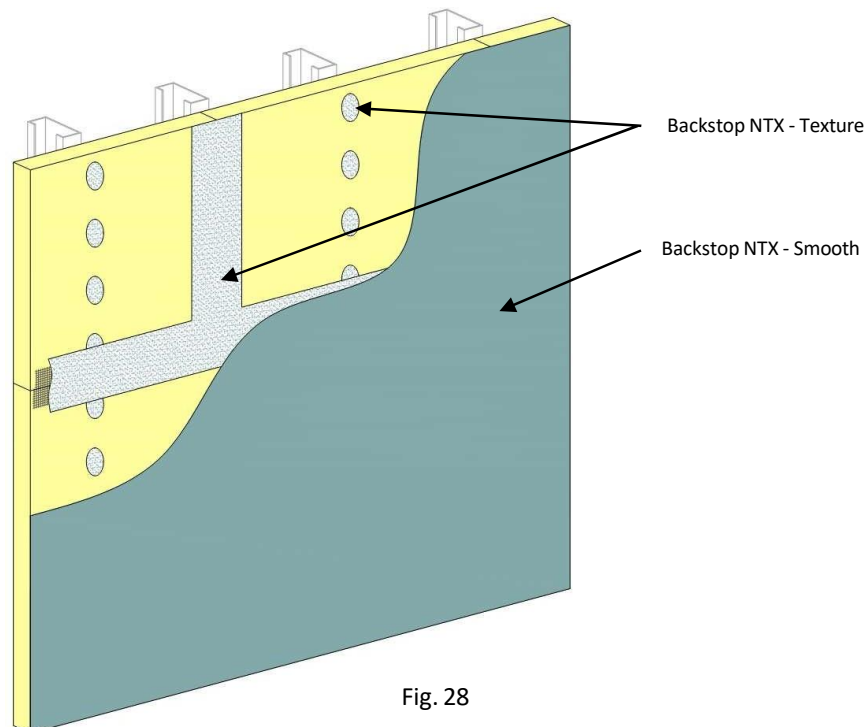

Fig. 28
- a. General: Dryvit Backstop NTX – Smooth can be applied using a roller or sprayed and back-rolled over the acceptable sheathing substrates. NOTE: OSB sheathing requires that joint and fasteners be treated with Backstop NTX – Texture. A minimum of two (2) coats of Backstop NTX – Smooth are required for the field of the wall. Backstop NTX – Texture is not recommended for application in the field of the board.
- 2) Backstop NTX – Smooth material should be applied in a uniform, continuous film at the recommended coverage rate – Figure 28. NOTE: Sheathing substrates with a surface texture or high porosity will require additional material.